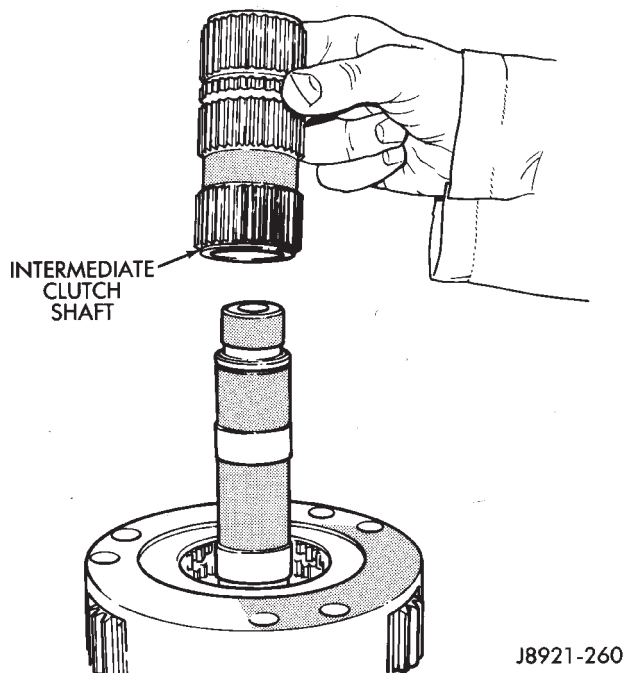

Fig. 59 Installing Intermediate Clutch Shaft
- (36) Install the intermediate clutch shaft (Fig. 59).